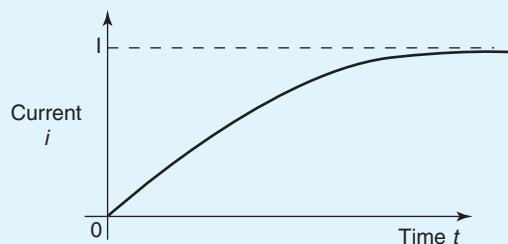

Figure 18.21
- The graph shown in Fig. 18.21 represents the growth of current in an $L-R$ series circuit connected to a d.c. voltage V volts. The equation for the graph is: